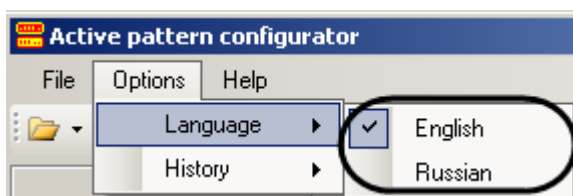

Fig. 12.3—3 Change the language of PatCfgr.exe utility interface
2. Select the needed interface language (Fig. 12.3—3).
Click the  button or select «Exit» from «File» menu to close the PatCfgr.exe utility (Fig. 12.3—2).